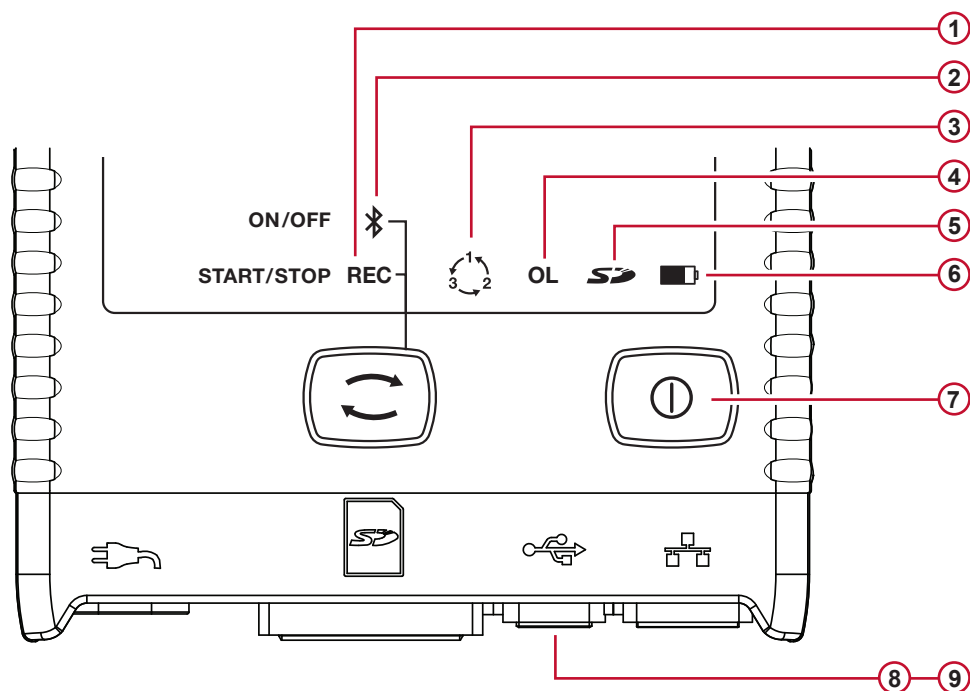

Figure 11
- The GREEN REC LED (see #1 Figure 11) lights up for 3 s, followed by the BLUE BLUETOOTH LED (see #2 Figure 11) for 3 s - one after another. During the time each LED is lit you can control its associated function as described below.